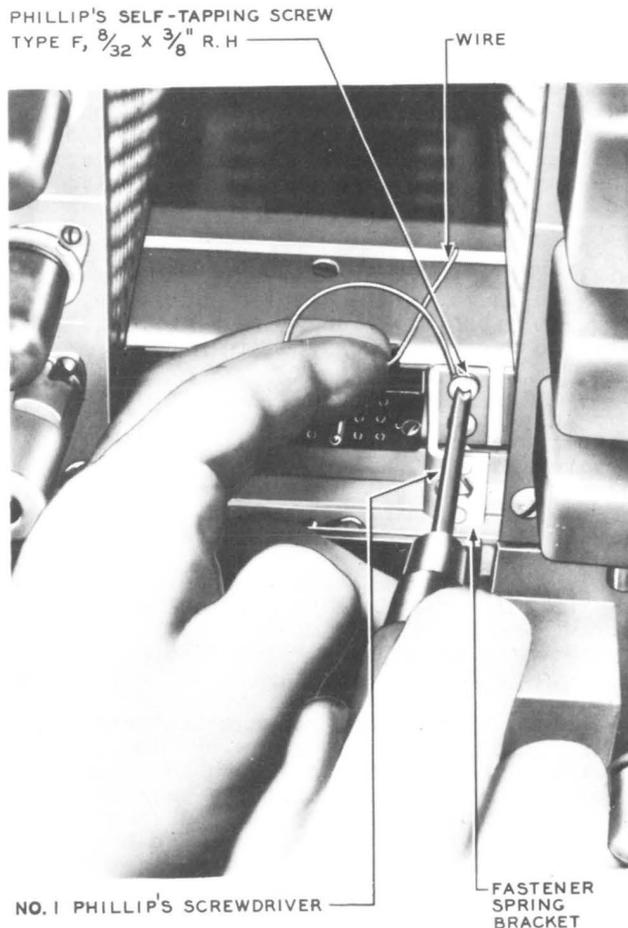

Fig. 6 - Method of Guiding Screws Into Place
- 4.13 Hold the replacing fastener spring bracket in position and insert a screw into one of the holes in the bracket. This operation will be facilitated by looping a short length of wire around the screw to guide it into position as shown in Fig. 6. Then tighten the screw, removing the wire before the screw is tight. Repeat for the other mounting screw.